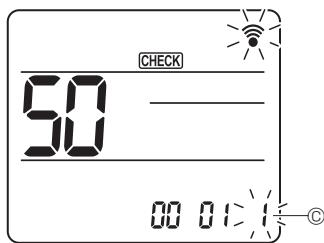

Fig. 6-21
- ⑤ Select a mode Selecting the setting number
Use the **▲** button to change the Setting number ⑥. (Fig. 6-21)